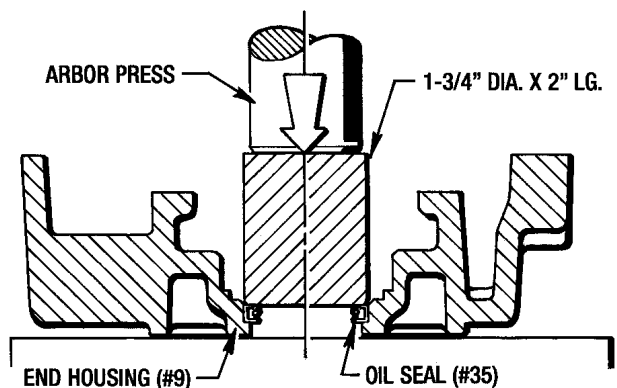

Figure 9.1 - Installing Oil Seals
3. Press the Oil Seal (#31) into the Housing (#8) with an arbor press until it bottoms out on the retaining shoulder. as shown in *Figure 9.1*.
4. Press the Oil Seal (#35) into the Housing (#9) with an arbor press until it bottoms out on the retaining shoulder. as shown in *Figure 9.1*.